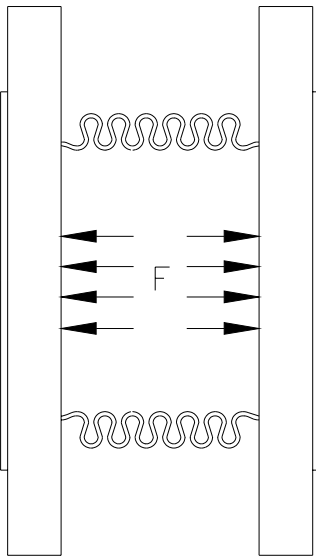

Fig 1. Extension Under Pressure
Unrestrained or axial expansion joints will extend under pressure. (See fig 1) Pipe anchors are therefore required to prevent this. This pressure thrust force (F) is a function of the pressure (P) times the cross sectional area (A) of the bellows. $F=A \times P$. The pressure thrust of axial expansion joints can be very large and it may not be possible to construct anchors of sufficient strength at high level.